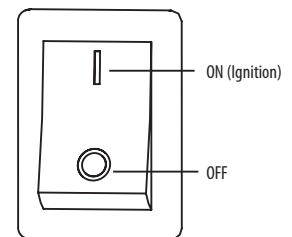

Figure 14
5. If equipped with an Emergency Stop Control switch, make sure that the Emergency Stop Control is set to the ON position, represented by the solid line, while attempting to start the engine. See Figure 14.
To stop the running engine using the Emergency Stop Control, move the switch to the OFF position, represented by the circle. See Figure 14.